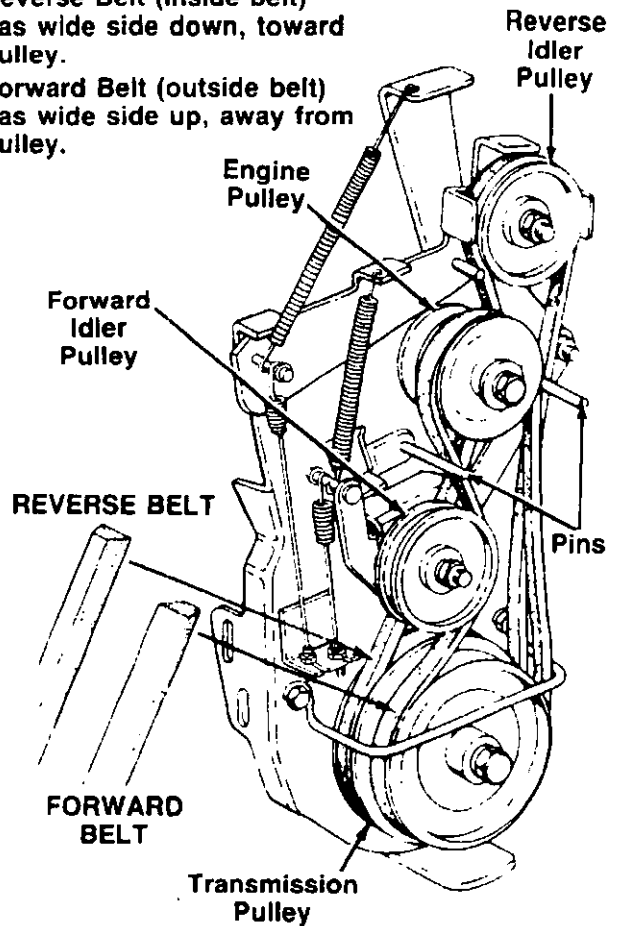

FIGURE 32.
Forward Drive Belt (Refer to figure 32)
4. Remove the belt from around the idler pulley. See figure 32.
Upon reassembly, make certain belt is inside the belt guard pins as shown in figure 32.
Reverse Drive Belt (See figure 32)